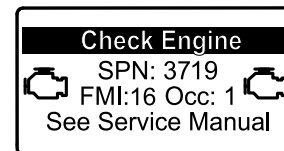

Figure 46
- If a parked regeneration is needed, the InfoCenter displays engine warning SPN 3719, FMI 16 (Figure 46) and the engine computer derates engine power to 85%.